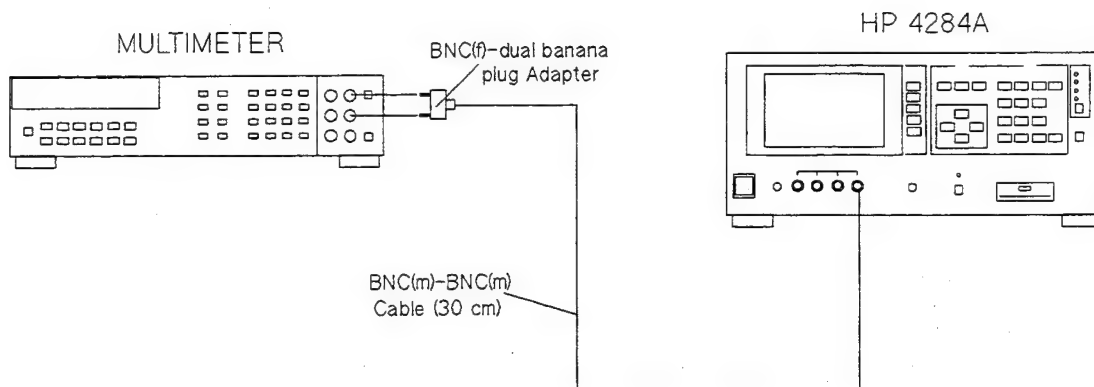

Figure 2-11. Signal Source Adjustment Setup
3. Perform the signal source adjustment according to the program's instruction. Figure 2-11 shows the adjustment setup, Figure 2-12 shows the location of A5R11 (OSC LVL).